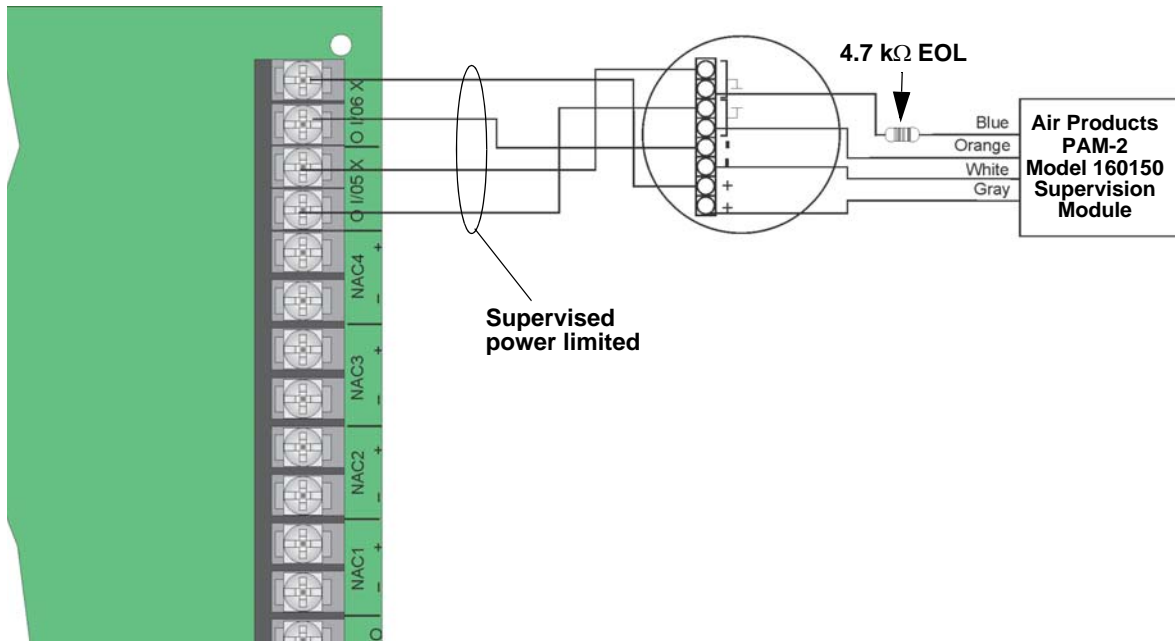
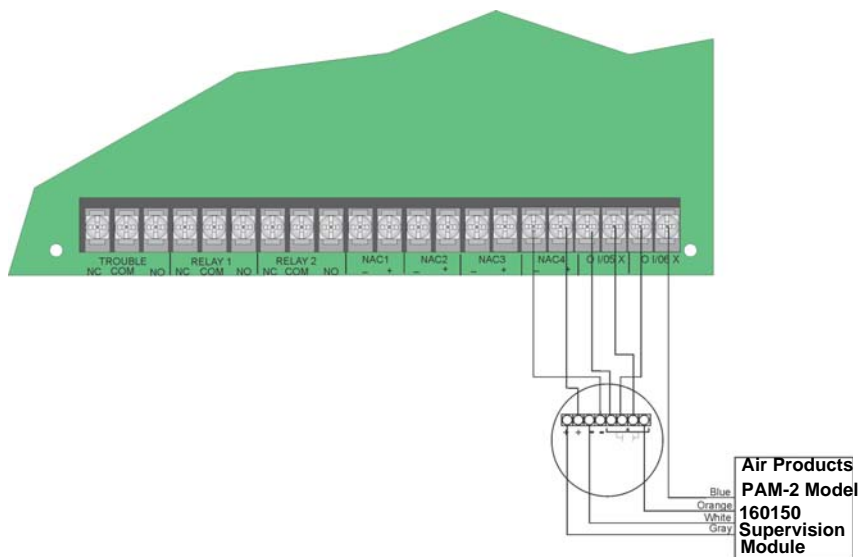

Figure 4.49 Class B 4-Wire Smoke Detector Connections
Figure 4.50 Class A 4-Wire Smoke Detector Connections
Any compatible UL listed four-wire smoke detector can be used with the control panel (see Appendix A for list of compatible smoke detectors). Figure 4.49 and Figure 4.50 illustrate how to connect a UL listed four-wire detector to the control panel.
Figure 4.49 illustrates how to install a 4-wire Class B smoke detector.
2. The Class B loop input is paired with a unique power source as shown in Figure 4.49.
NOTE: In programming any point that uses multiple Flexput circuits, the lowest Flexput circuit number is used to refer to the circuit pair. In this example, Figure 4.49 uses both Flexput circuit 5 and 6, so in programming it would be referred to as point 5.
Figure 4.50 illustrates how to install a 4-wire Class A detectors.
- Smoke power is supplied to each Class A loop as shown in Figure 4.50.
NOTE: In programming any point that uses multiple Flexput circuits are always referred to as the lowest Flexput circuit number used. In this example, Figure 4.50 uses Flexput circuits 5, 6 together with NAC 4. In programming (4, 5, 6) would be referred to as point 5.